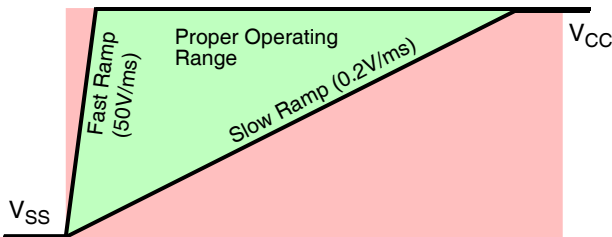

FIGURE 2. V_{CC} RISE TIME
1. The V_{CC} supply should power up with a maximum ramp rate 50V/ms and minimum ramp rate of 0.2V/ms (as per the data sheet). See Figure 2.